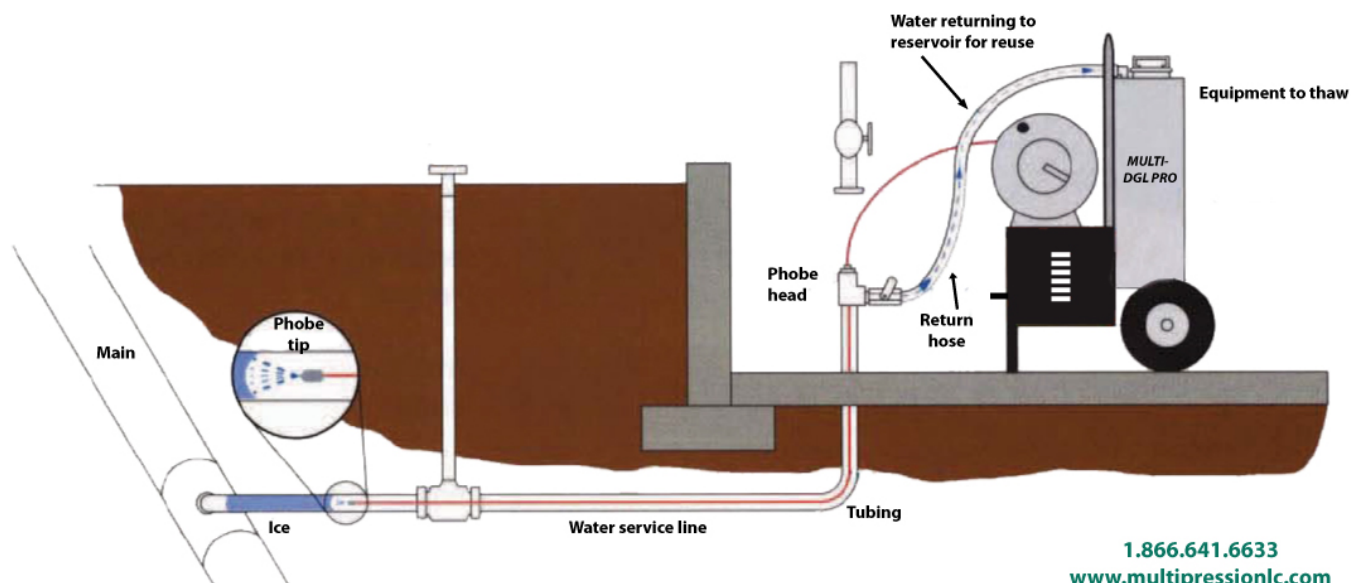

Figure 1.1
5. Install hoses as picture below (Figure 1.1)
Start the probe tip and tubing into the probe head and couple the quick coupler plug on the probe tubing to the quick coupler socket on the probe head. (Figure 1.1)